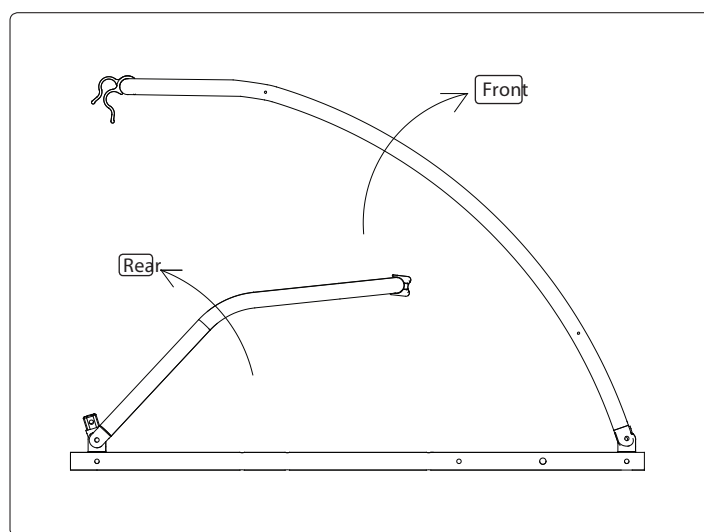

FIGURE 1
1. Rotate front tube upward and rear tube back until they meet on plastic saddles. FIGURE 1